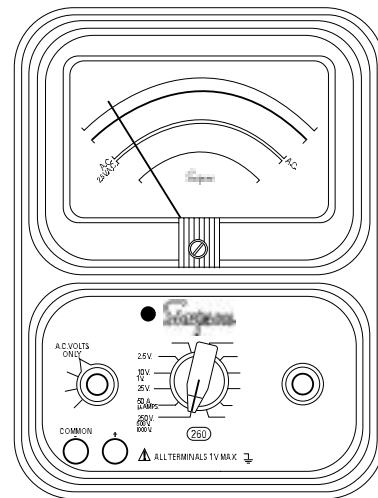

Figure 4-6. Jacks and Switch Positions for Measuring AC Voltages, 0-2.5 through 0-250V Ranges
- a. Set the function switch at AC Volts Only position (Figure 4-6).